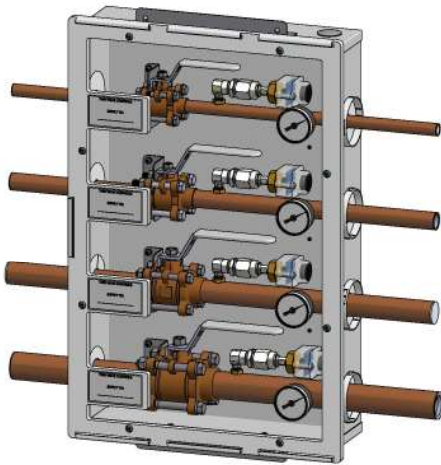

Figure 21: Zone Valve Box Location
1. Remote sensors can be installed in a compatible BeaconMedæx Zone Valve Box. (NOTE: copper adapter tube not needed for Zone Valve box installation (Figure 21).